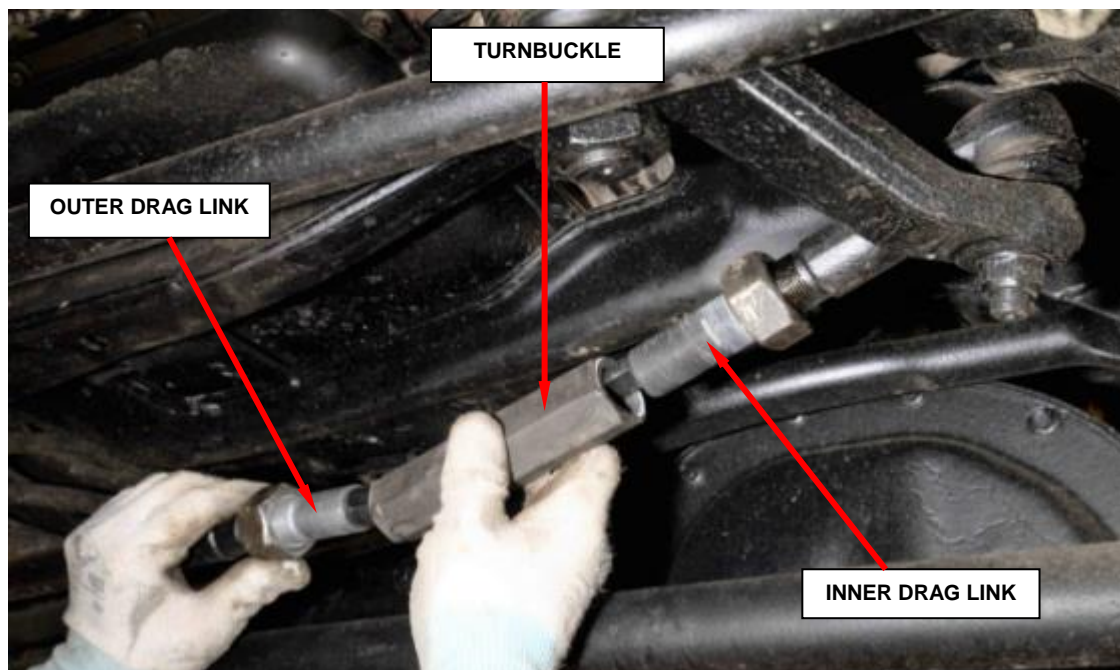

Figure 4 – Remove Turnbuckle
3. Remove the turnbuckle from the inner and outer drag links (Figure 4).